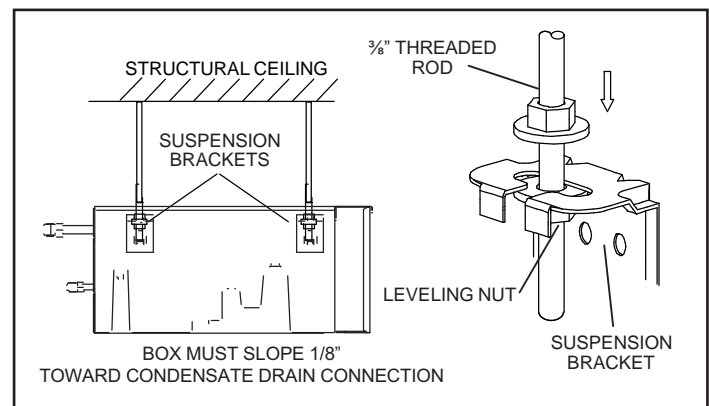

Figure 2. Suspension Hardware
- The mode selection box must be sloped 1/8" toward condensate drain outlet. See figure 2.
3. Raise the mode selection box and insert the threaded rods into the suspension brackets. Slide a washer and then a nut onto each rod below each suspension bracket. Use the leveling nut (beneath suspension bracket) to adjust the mode selection box. Remove the electrical tape holding the upper washers and nuts in place and tighten each of the four nuts above the brackets down onto the brackets. The mode selection box must be sloped 1/8" toward condensate drain outlet. See figure 2.